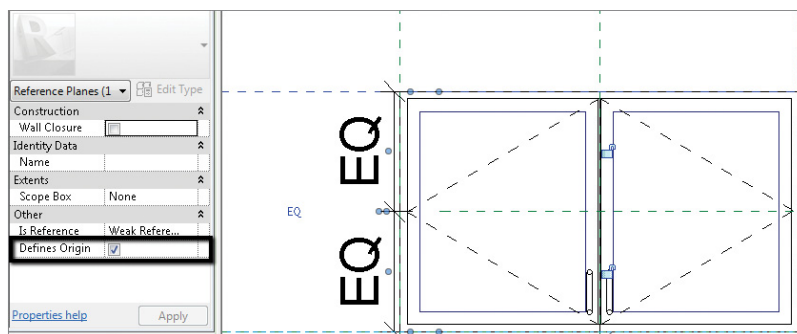

FIGURE 6.14 Elevation view's Defines Origin parameter
8. Open the Placement Side elevation view, and select the reference plane at the top of the cabinets. Select the check box for the Defines Origin parameter in the Properties palette as you did for the reference planes earlier. Note the reference plane elevation is 6'-0" (1829 mm) above the floor line (Figure 6.14).